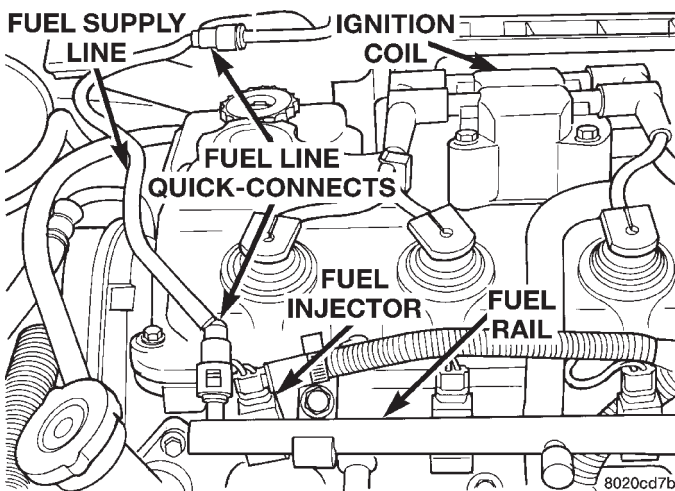

Fig. 45 Fuel Injectors—2.0/2.4L Engines
(8) Inspect the fuel injector electrical connections (Fig. 45). Use the DRB Scan Tool to verify connection on a 2.5L engine.